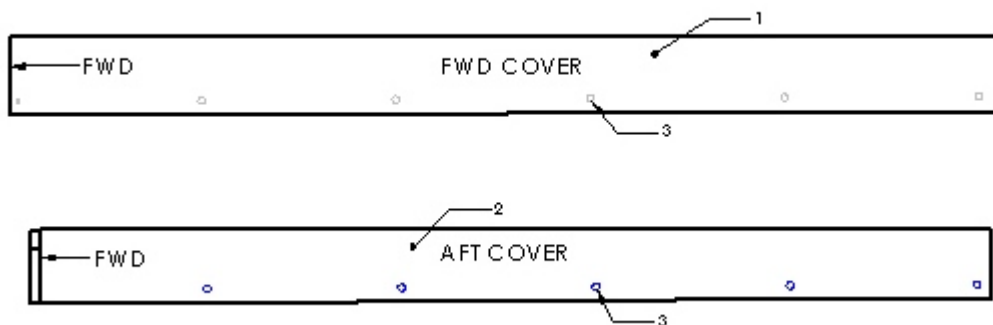

Figure 1
Referencing figure 1, loosen all the Camloc fasteners (3) on the LH and RH sides of the forward driveshaft cover (1) and lift cover from the tailboom. Loosen all the Camloc fasteners (3) on the LH and RH sides of the aft driveshaft cover (2) and lift cover from the tailboom.
Referencing figure 1, place the aft driveshaft cover (2) onto the tailboom in the aft position and tighten all the Camloc fasteners (3) on the LH and RH sides and inspect for proper grip length. Set the forward driveshaft cover (1) onto the tailboom in the forward position and tighten all the Camloc fasteners (3) on the LH and RH sides. Camloc fasteners (3) should fully engage and be of the proper grip length. If the covers are the hinged style, check for proper operation per section 2.5 of this document.
Referencing figure 1, loosen all the Camloc fasteners (3) on the LH side of the forward driveshaft cover (1) and rotate cover to the RH side of the rotorcraft. Loosen all the Camloc fasteners (3) on the LH side of the aft driveshaft cover (2) and rotate cover to the RH side of the rotorcraft.
Referencing figure 1, rotate the aft driveshaft cover (2) to the LH side of the rotorcraft and tighten all Camloc fasteners (3). Rotate the forward driveshaft cover (1) to the LH side of the rotorcraft and tighten all Camloc fasteners (3).